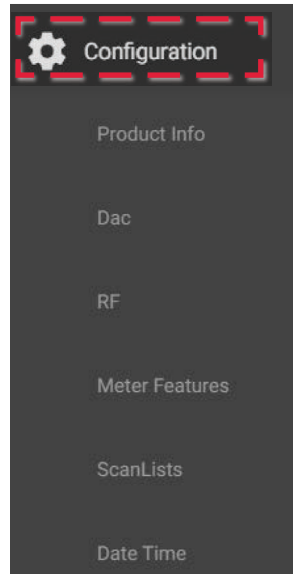

Figure 3-7. Configuration Menu
1. Select **Configuration** to expand the configuration menu Figure 3-7 on page 19.